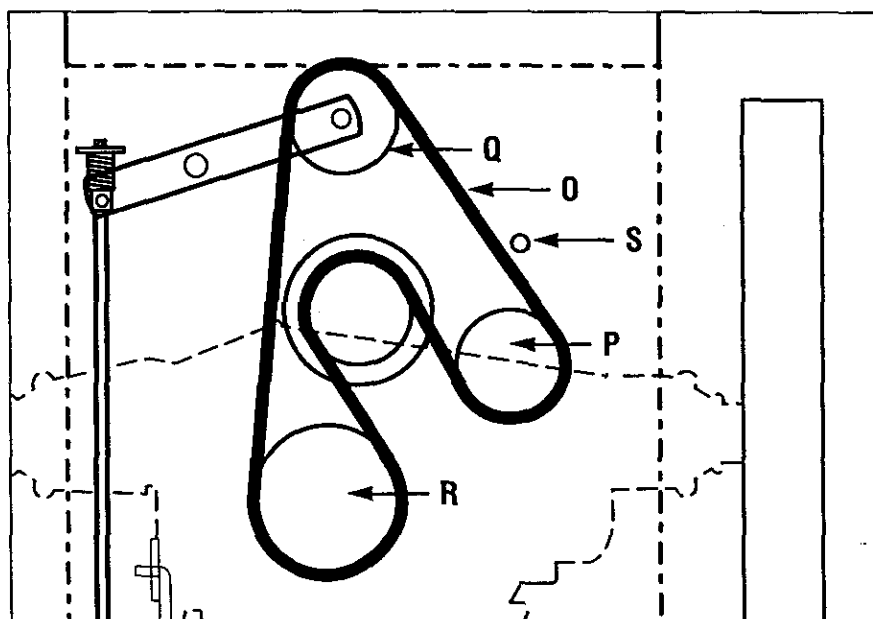

Figure 5-11: Wheel drive belt replacement.
4. Locate wheel drive belt (O, Figure 5-11) and remove it from top sheave of engine sheave, backside idlers (P and Q) and transmission sheave (R).
5. Install new belt shown in Figure 5-11. Belt must be installed "inside out" "V" side of belt lies against engine sheave only. Flat side of belt lies against transmission sheave (R) and back-sided idlers (P and Q).
6. Make sure belt is inside belt guide (S, Figure 5-11).